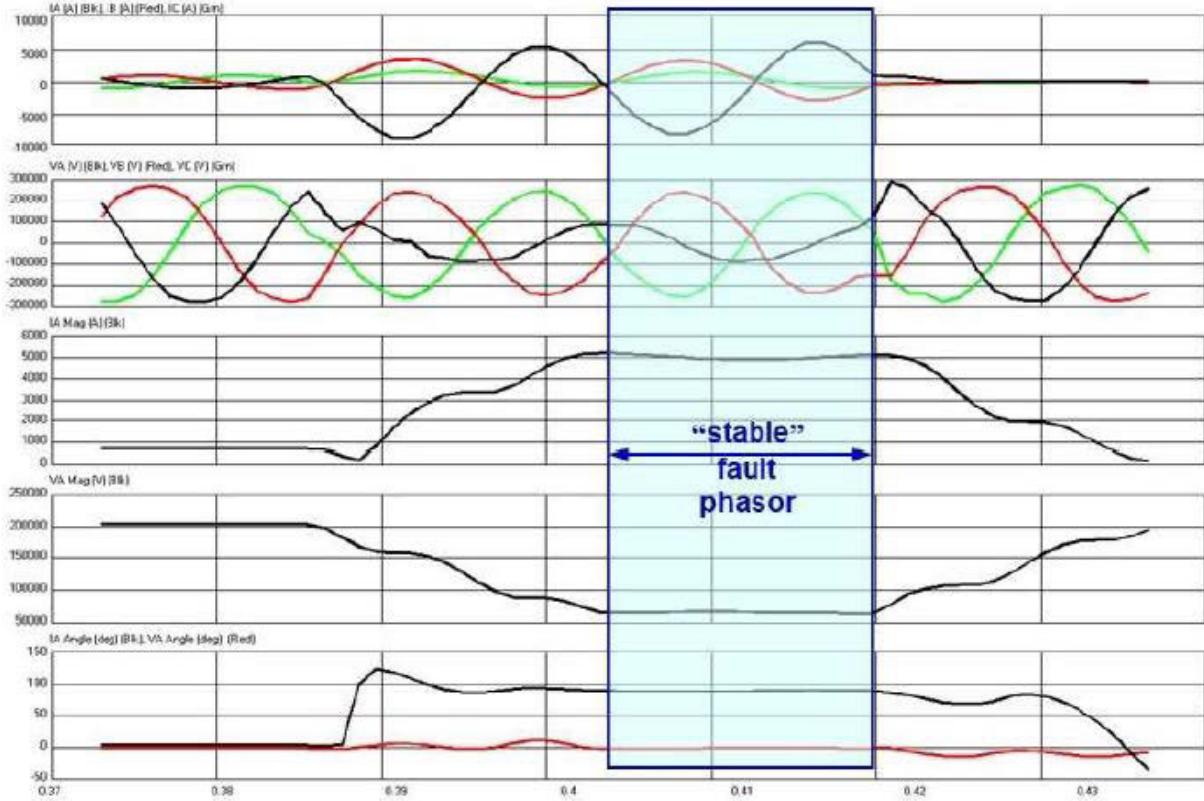

Figure E-1: Use of P Class Synchrophasors for Fault Calculation
- The P Class or Protection Class Synchrophasors – this class utilizes a 2-cycle “triangular” data filtering window. Given the small window size, a synchrophasor or two can be computed during most fault cases and subsequently be used in a double or triple ended fault location (see Figure E-1 below). P Class synchrophasors can be emitted at rates of 120 measurements/sec or higher.